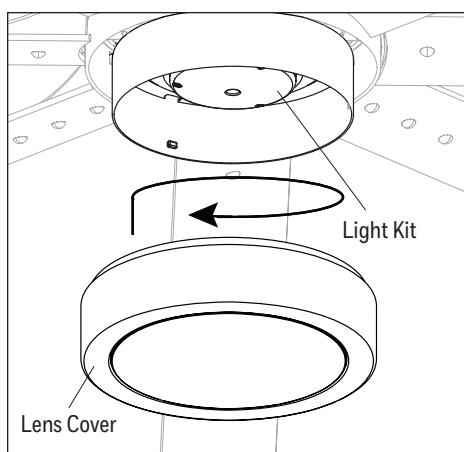

Figure 5.7
7. Attach the lens cover to the light kit by twisting the lens cover tightly in a clockwise direction (Figure 5.7).